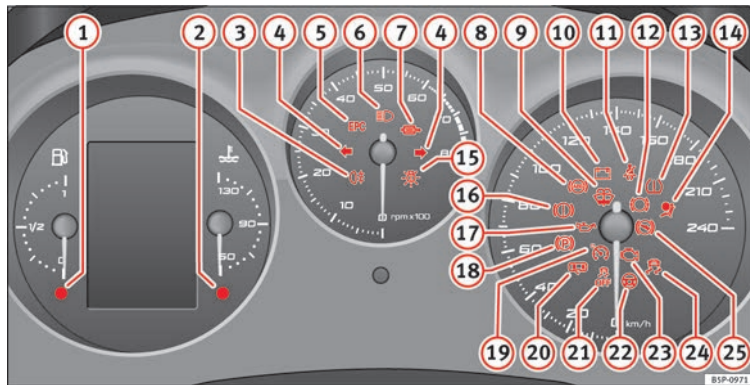

Fig. 30 Instrument panel warning and control lamps. Some of the items of equipment listed here are fitted only on certain model versions or are optional extras.
The warning lamp* » Fig. 30 (2) will light up if the needle is in the warning zone. The following warning message appears on the instrument panel display³⁾. **Stop the vehicle and switch off the engine.** Check the coolant level » page 169 » ⚠.